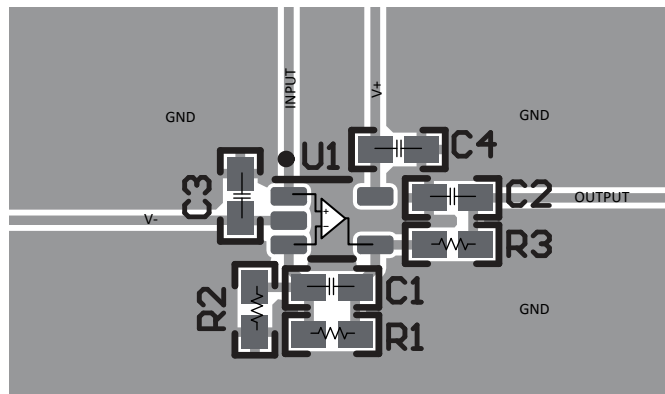

図 7-4. Operational Amplifier Board Layout for Non-inverting Configuration - SC70 (DCK) Package
- Place the external components as close to the device as possible. As shown in Figure 7-4, keeping RF and RG close to the inverting input minimizes parasitic capacitance.